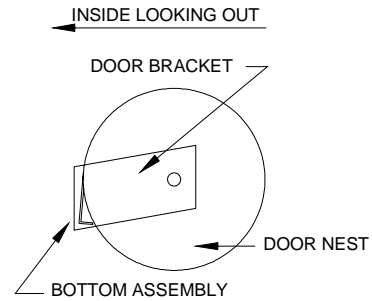

Figure 8.
5.5 Position bracket in rough alignment with the bottom assembly. See Figure 8 Ensure that the door spring is in a relaxed position. Pass a 5/16" bolt with a flat washer through the loop in the end of the door spring and through the nearest